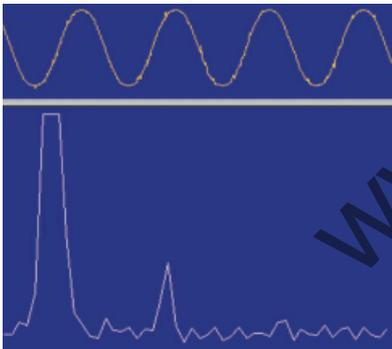

Fig.10. Analysis screen in Expand mode.
The Expand button is similar in action to the Expand button for the Input Display. It allows you to view the low frequency left-hand side of the analysis graph in "close-up". It effectively expands the display by 10 times, with the high frequency end not shown (see Fig.10).
*Note that Figs. 10 to 20 have been "reversed-out" (black on grey) for clarity when printed.*